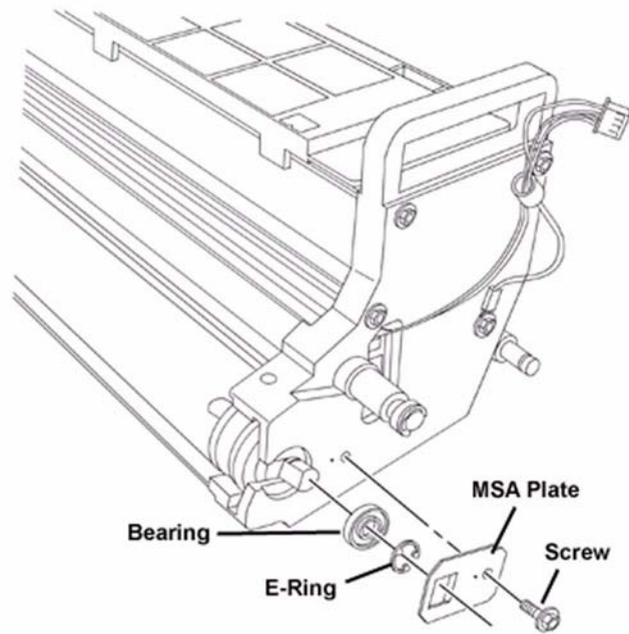

Figure 1 Removing the components from the left end of the Developer Housing Assy
6. Remove the Screw, MSA plate, E-Ring and Bearing from the left end of the Developer Housing Assembly (Figure 1).